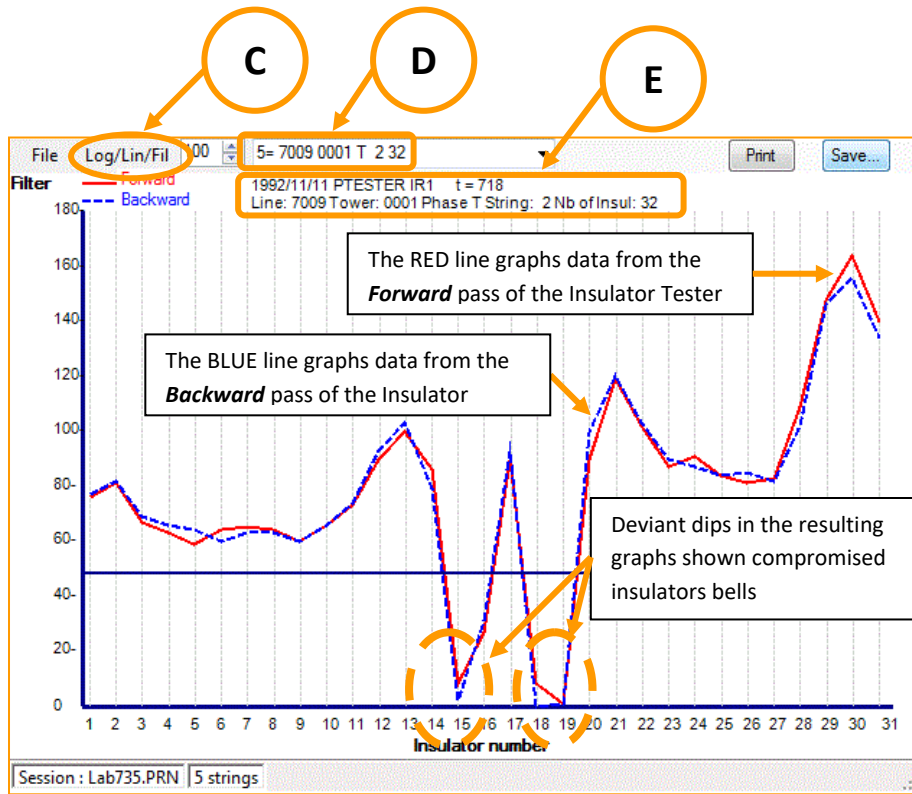

Figure 17
- C) **Log/Lin/Fil** (Figure 17) indicates the scaling upon which the graphic results of the scans will be represented. This scaling option is made available by the Windows-based Insulator Tester Software for very High Voltage insulator strings of 14 or more Porcelain insulators.